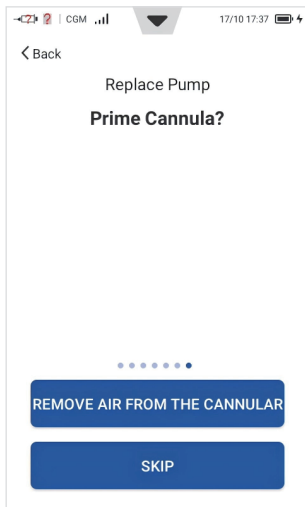

Figure 48
5. Now choose whether or not to prime the cannula (Figure 48). Upon completion, the pump will be ready to deliver.